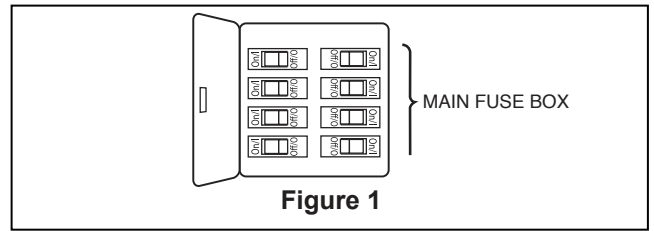

Figure 1
The fan must be hung with at least 7' of clearance from floor to blades. (Figure 1)
- 1.** Position blade over the motor assembly flywheel. Make sure the blade is fully seated against the flywheel. Place blade plate over the blade with holes aligned and assemble blade to flywheel using serrated head screws, but don't fully tighten. (Figure 1)
1. Slide the housing assembly over the motor assembly shaft. (Figure 1)
To avoid possible electrical shock, be sure electricity is turned off at the main fuse box before wiring (Figure 1).
- 1. Align and seat the mounting tab of ceiling bracket assembly into the notch of the wire tray assembly. (Figure 1)
- 1. **IMPORTANT:** Using a full range dimmer switch (not included) to control fan speed will damage the fan. To reduce the risk of fire or electrical shock, do not use a full range dimmer switch to control the fan speed. (Figure 1)